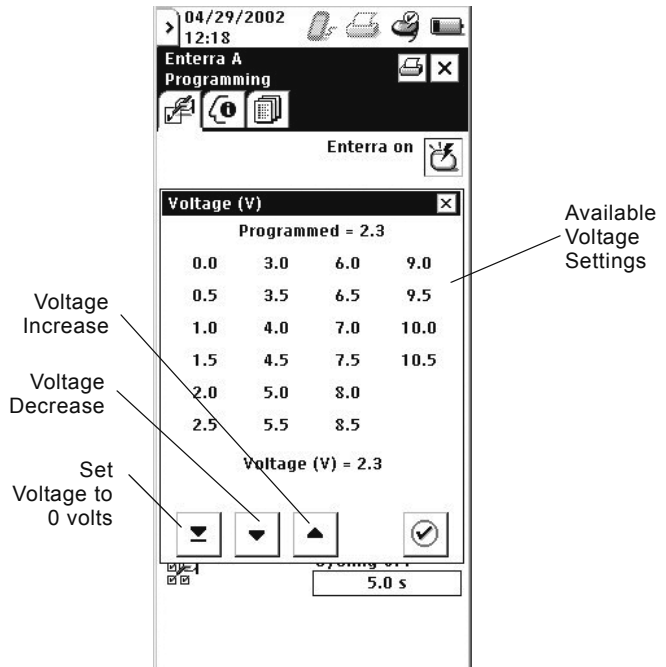

Figure 26. Select voltage values.
- a. A list of possible voltages will appear (Figure 26). Select a target voltage. If the desired voltage is greater or less than the target chosen, use the up or down arrow to reach the exact target.
Note: The voltage can also be set to 0V by touching the down arrow with the line under it. This icon is positioned below the voltage setting box, next to the up and down arrows (Figure 26).